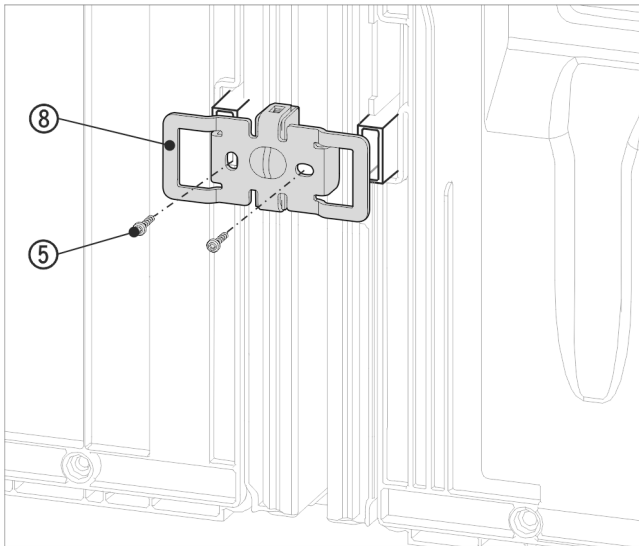

Fig. 16 Example illustration
- Slide the bracket Fig. 16 (8) on once more with the slots over the retainer for the wall spacers.
- Screw in tightly with the 2 screws Fig. 16 (5).